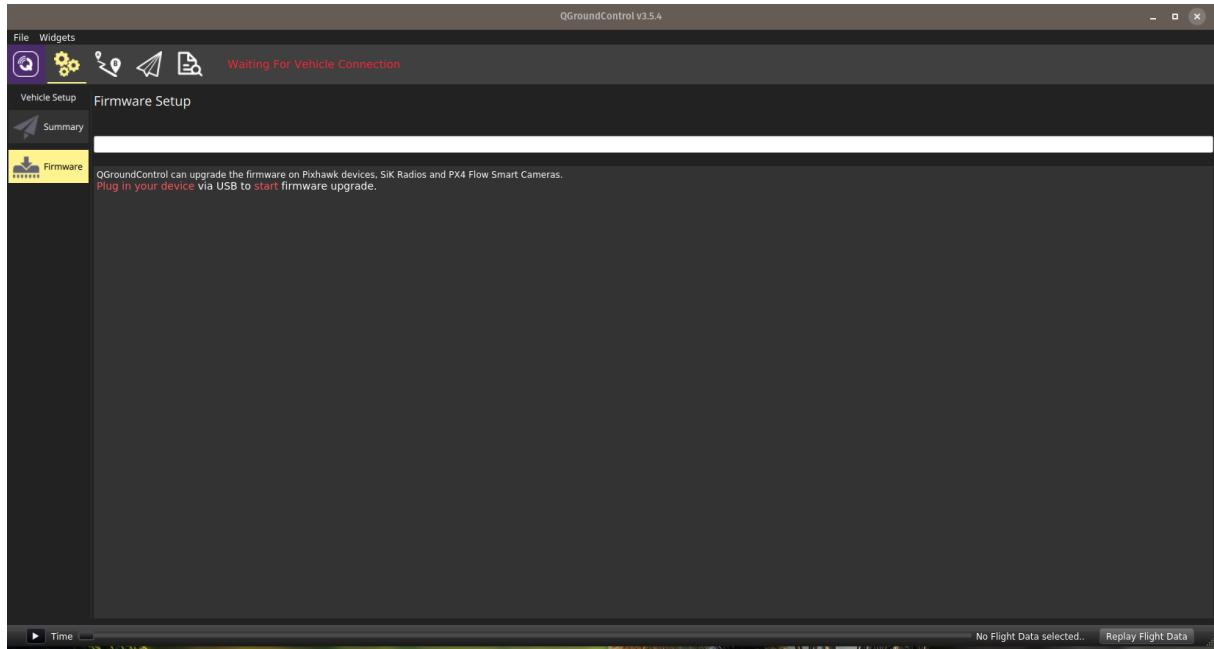

Figure 25: QGC firmware section.
1. Open QGroundControl (QGC) and navigate to the firmware section, as shown in figure 25.